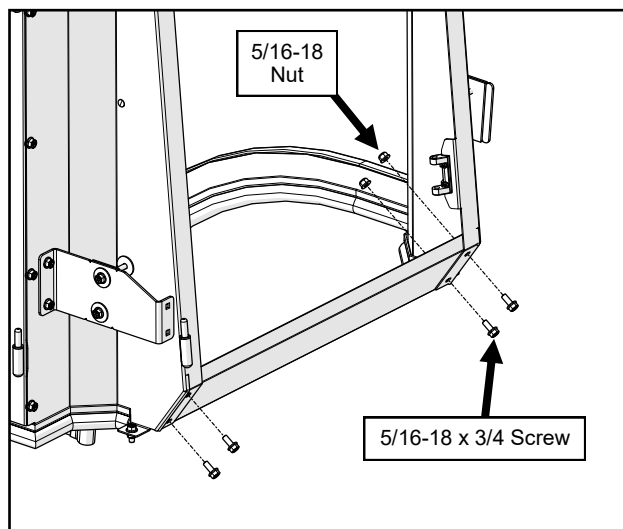

Fig. 7.1 (Install Lower Rear Panel)
- 7.1 With assistance, hold the lower rear panel in place and loosely secure with fasteners. See Figure 7.1.